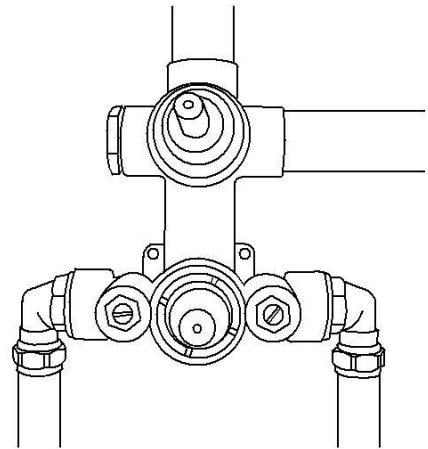

Fig 3
6. Position the mixer valve onto the hot and cold water feed pipes and tighten the compression nuts (See Fig 3). Hold mixer valve in place and secure to the wall with screws.